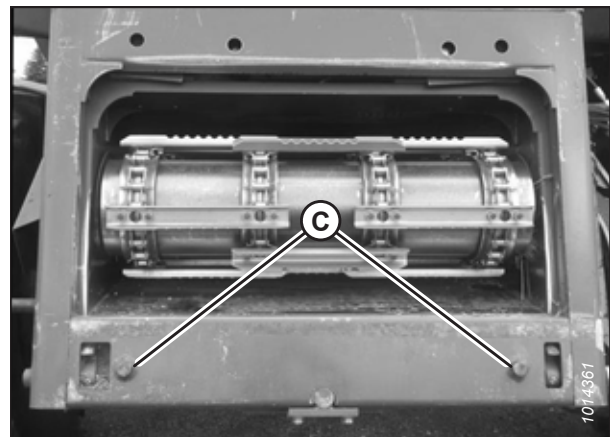

Figure 5.3: AGCO Group Alignment Pins
3. Start the engine and slowly approach the header until the feeder house is directly under float module top cross member (A) and alignment pins (C) (refer to Figure 5.3, page 130) on the feeder house are aligned with holes (B) in the float module frame.